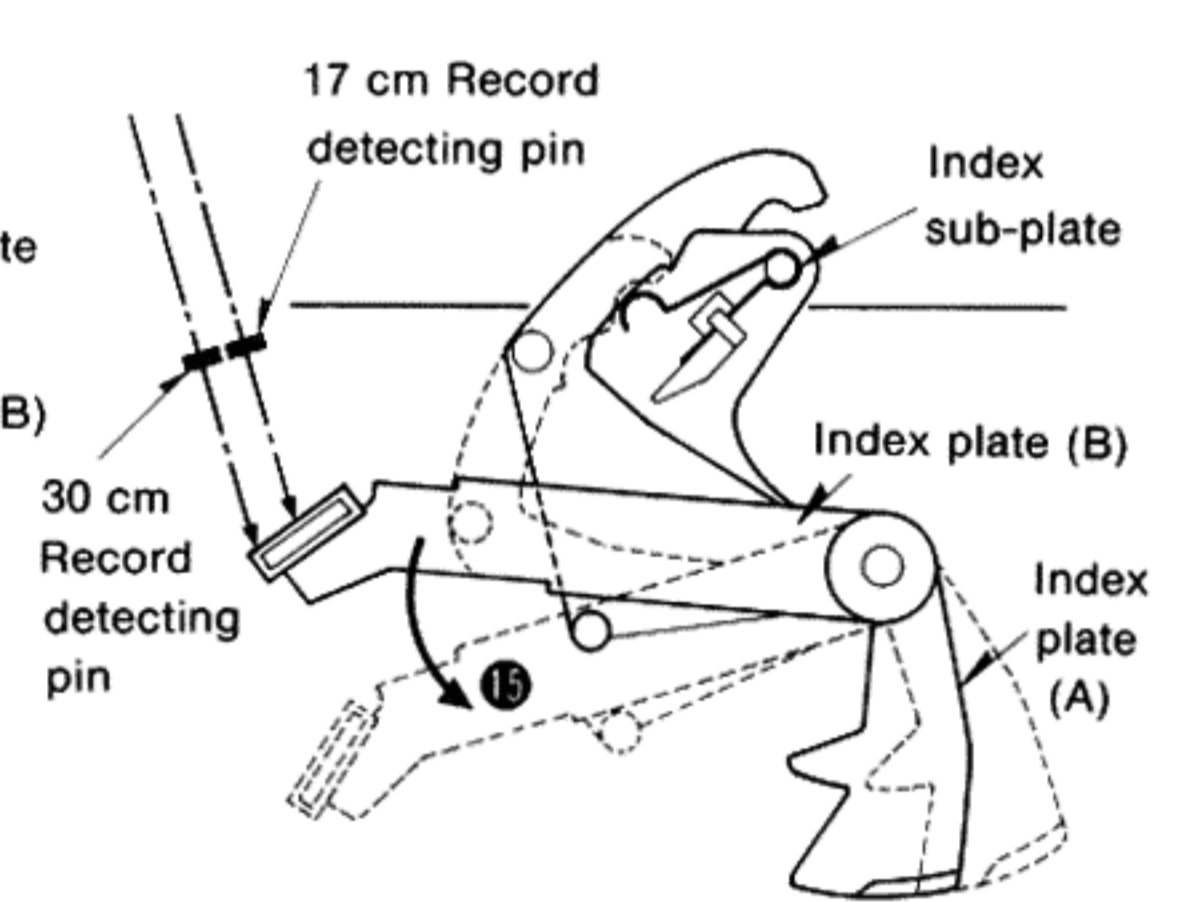

Fig. 5
| | | <ul style="list-style-type: none"> ★ Detection of 17 cm (7") record 1. The record size detecting plate pushes the reset lever attached to the turntable platter. 2. Both 30 cm and 17 cm record detecting pins interlocked with the reset lever move down. 3. The 30 cm and 17 cm record detecting pins touch index plate (B), then index plates (A) and (B) rotate. | 170° ~ 238° | Fig. 5 ●15 |